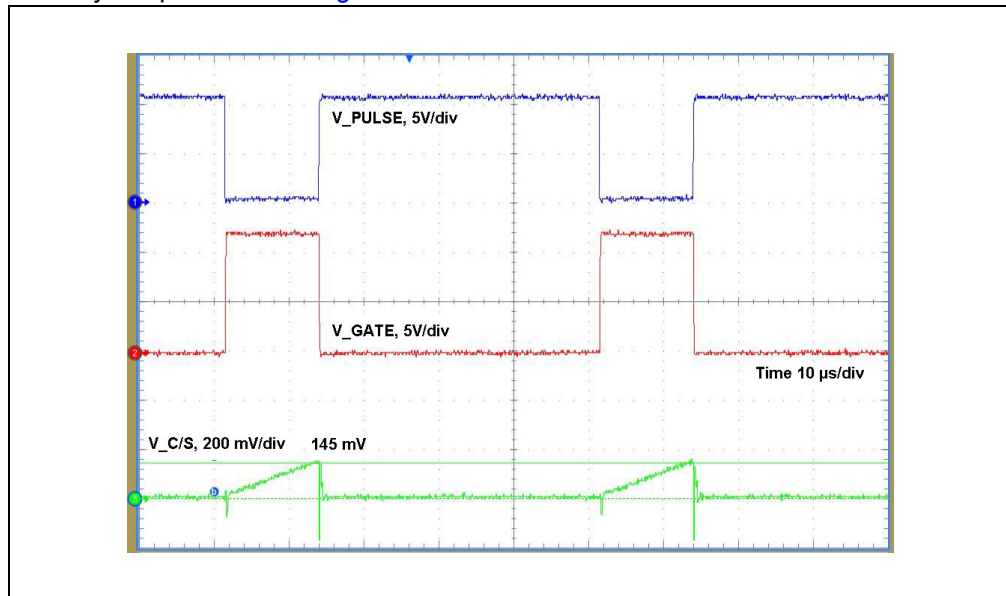

FIGURE 6-1: V_PULSE, V_GATE and V_CS when COMP1 Reference Is Not Reached.
- Check on the oscilloscope screen the signals V_PULSE, V_GATE and V_C/S as they are presented in Figure 6-1